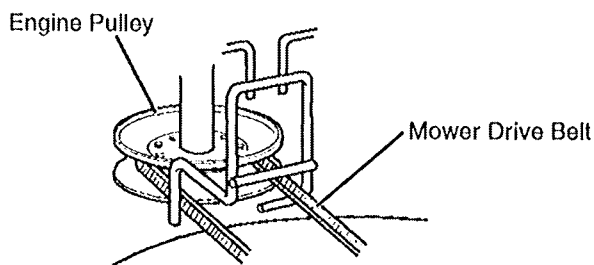

FIG. 47
MOWER DECK INSTALLATION (See Fig. 47, 48 and 49)
- Install mower drive belt on engine pulley. (See Fig. 47)
REPLACING MOWER DRIVE BELT (See Fig. 47, 48 and 49)
38 Inch Mower Deck: (See Figure 47 and 48)
46 Inch Mower Deck: (See Figure 47 and 49)